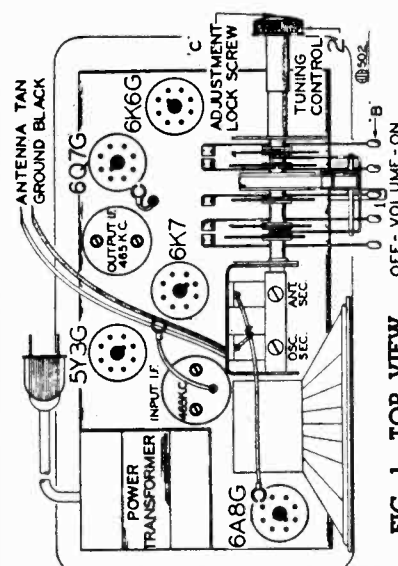

FIG. 1 - TOP VIEW
Now hold tuning knob securely with left hand to prevent it from turning, or Rotate the tuning knob (No. 2) to the right (clockwise) as far as it will turn, and with a coin (half dollar), tighten the special locking screw ("C") in the center of the tuning knob. (See Fig. 1). This screw will lock in place all the stations you have selected on the automatic tuner levers. (Note: Locking screw "C" is loose when radio is shipped from factory). If you should desire to change any station you selected to another, hold the tuning knob No. 2 securely and with a coin loosen the locking screw "C" one or two turns; select the new station as explained. Be sure to retighten the locking screw, otherwise the stations you have selected will not stay adjusted to the levers.
- These I.F. transformers have two adjustments, both of which are accessible from the top of chassis (see Fig. 1).
- With external oscillator set at 1720 kilocycles, adjust oscillator trimmer to resonance. This adjustment is on the top of rear section of variable gang condenser. (See Fig. 1).